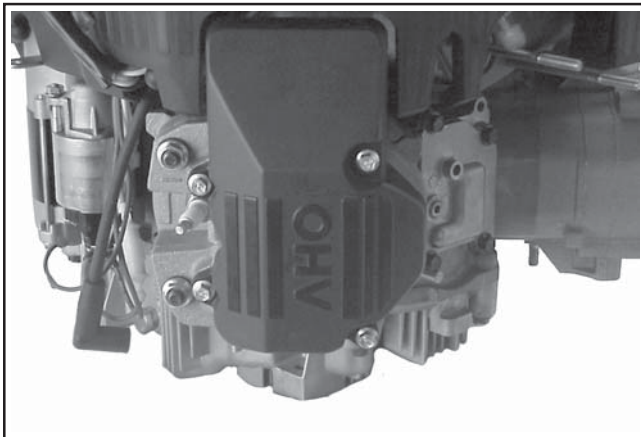

Figure 11-91. #1 Side Valve Cover.
3. Install the valve cover with the breather assembly on the #1 side, and finger tighten the four mounting screws. Make sure the gasket stays aligned. See Figure 11-91.